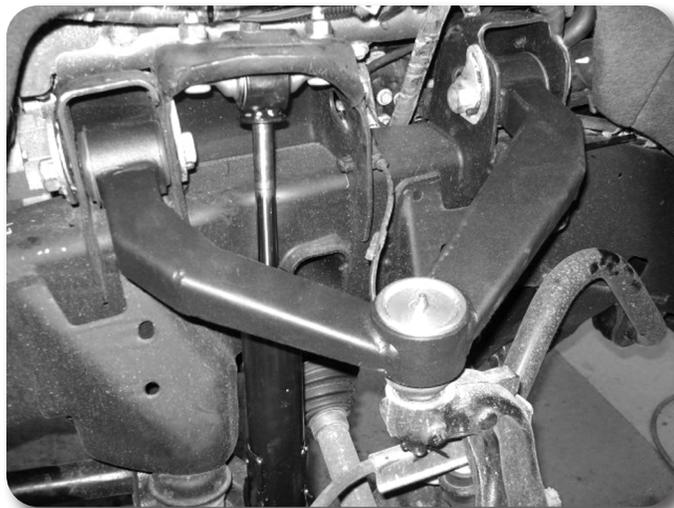

Figure 3
8. Install new upper control arm assembly with factory cam bolts. Arms are side specific. Snug, but do not tighten at this time. Attach the upper ball joint to the steering knuckle with provided nut, washer, and cotter pin. Tighten the upper ball joint nut to 55 ft-lbs before installing cotter pin. Figure 3